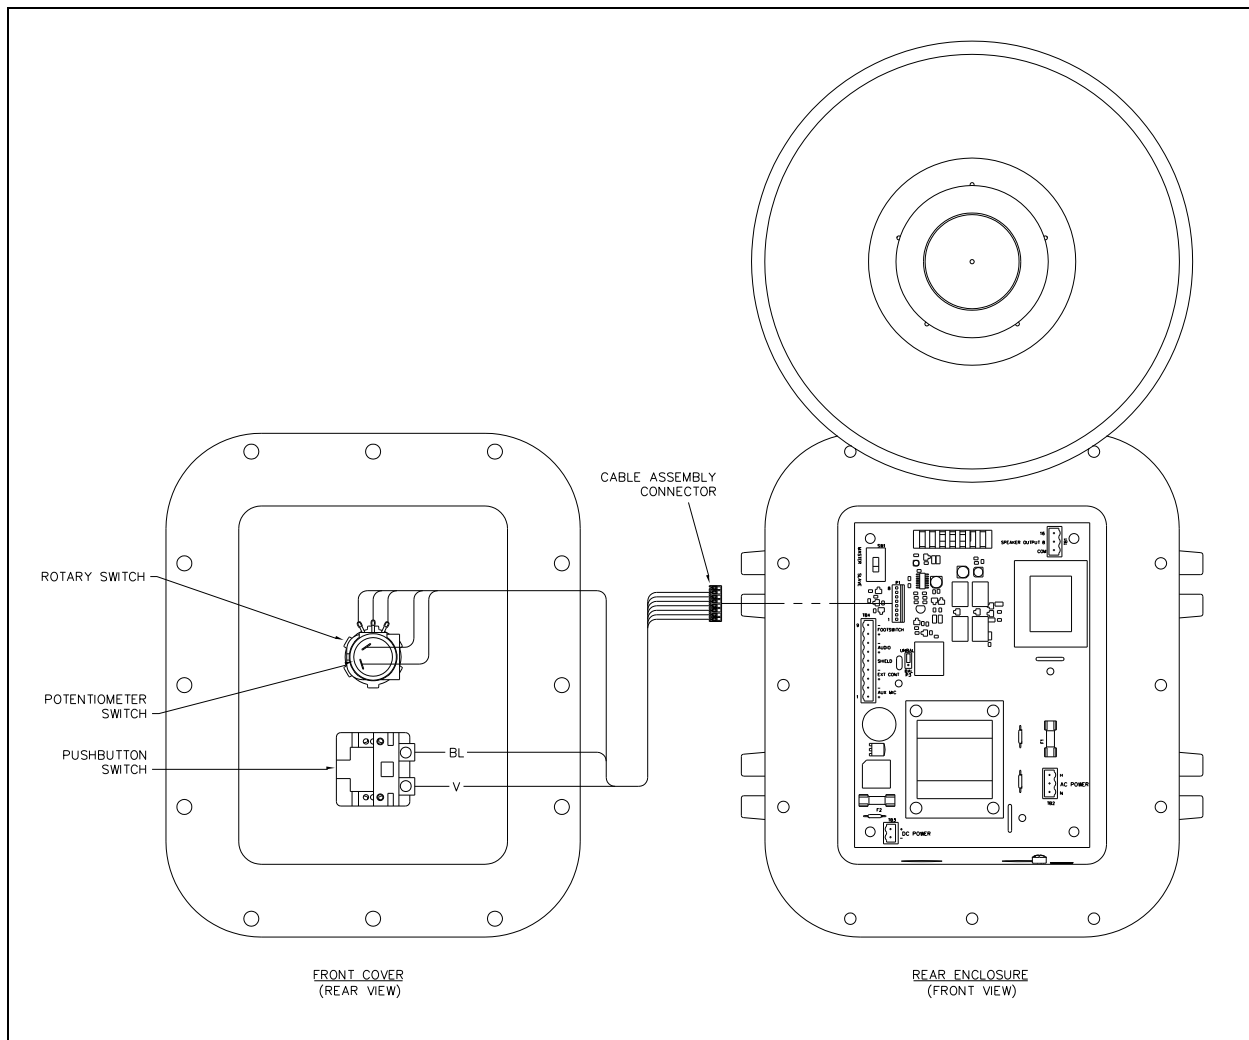

Figure 1. Switch Replacement Diagram
3. Unplug the cable assembly from the PCBA in the rear of the enclosure (see Figure 1).
4. Unscrew the blue and violet wires from the push-button switch (see Figure 1).
11. Screw the blue and violet wires into the push-button switch (see Figure 1).
12. Plug in the connector on the cable assembly into the PCBA (see Figure 1).